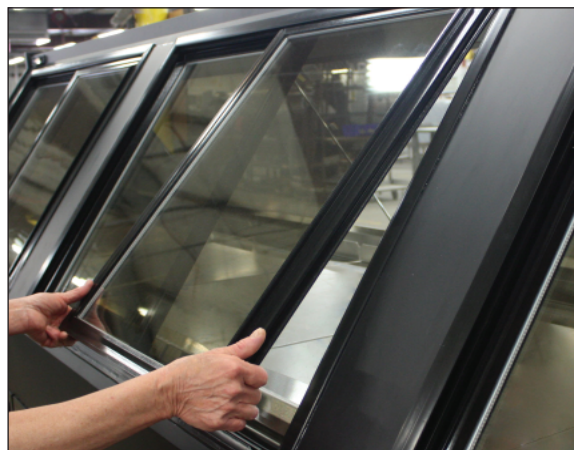

Fig. 23 Rear load door removal
1. Remove the rear sliding doors on the back of the case and clean. To remove: push up and pull out (Fig. 23). **Note: The same applies for optional rear lower storage doors (RRS/DRS).**